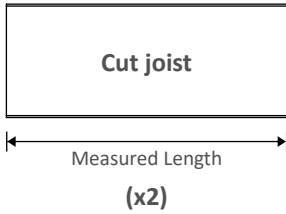

Fig. 103
3. Using Evolution Self-Drilling Screws, Mount two F-50 Brackets onto opposite ends of the cut Joist cuts. Be sure the outside edge of the F-50 Brackets and edge of the joist are flush. As shown in Fig. 103 & 104.